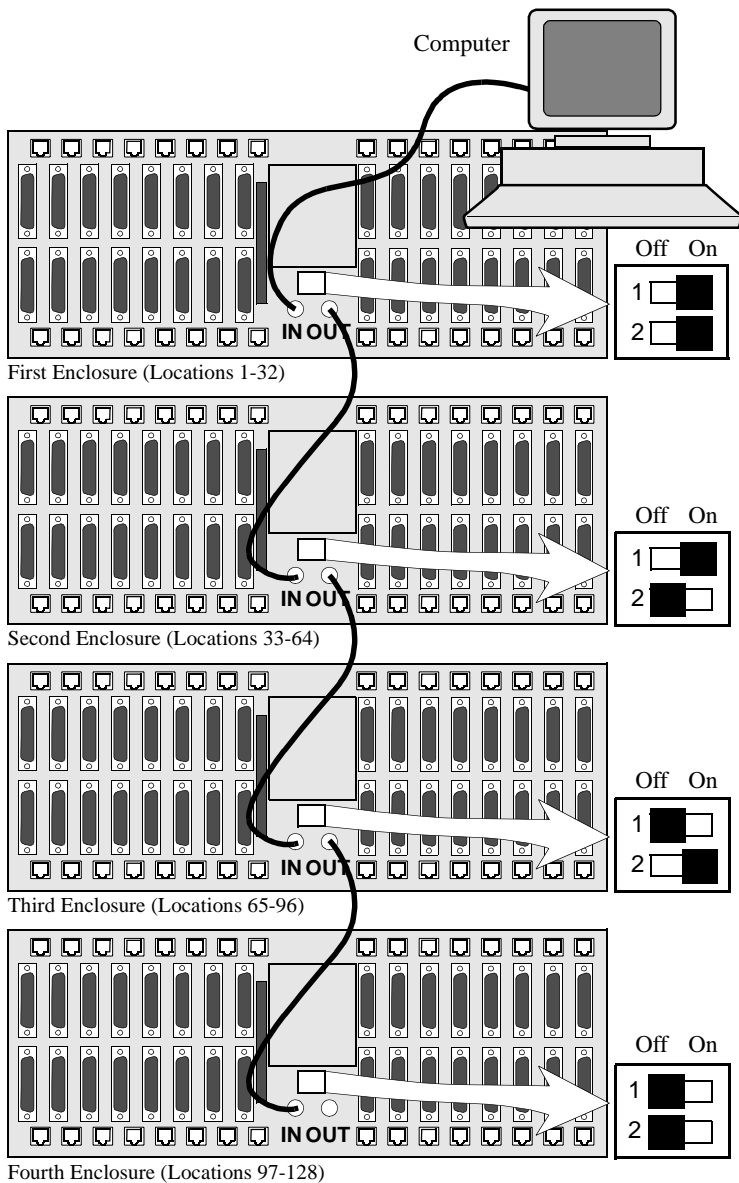

Figure 1-9. Cabling AccessWay Enclosures Together
3.	Cable the enclosures' NM OUT (or NC OUT) and NM IN (NC IN) connectors together (Figure 1-9).